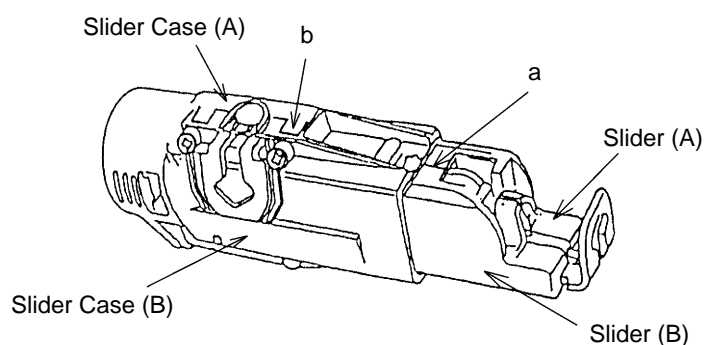

Fig. 13
- (1) Make sure that the joint between the Slider (A)/(B) is completely aligned at the point marked (a) in Fig. 13 (as this is essential for proper sliding).
- (2) If the top surface (b) (Fig. 13) of the screw seat of Slider Case (A) is lower than Slider Case (B), it is likely to result in improper sliding movement. Adjust top surface (b) of the screw seat of Slider Case (A) to be flush with or a little higher than Slider Case (B).